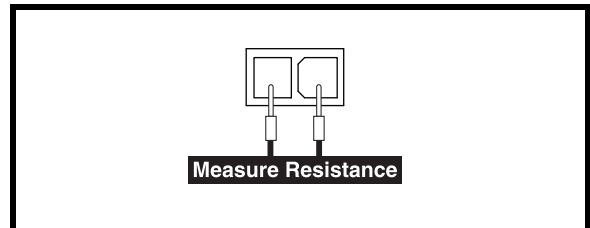

Figure 25. Connector 5d
10. Measure resistance across pin 1 and pin 2 of connector 5d. **See figure 25.**
- *If your multimeter indicates about 30-65 ohms, then replace the controller (8) and retest the system.*
- *If your multimeter does not indicate about 30-65 ohms, then replace the motor/brake harness (5) and retest the system.*